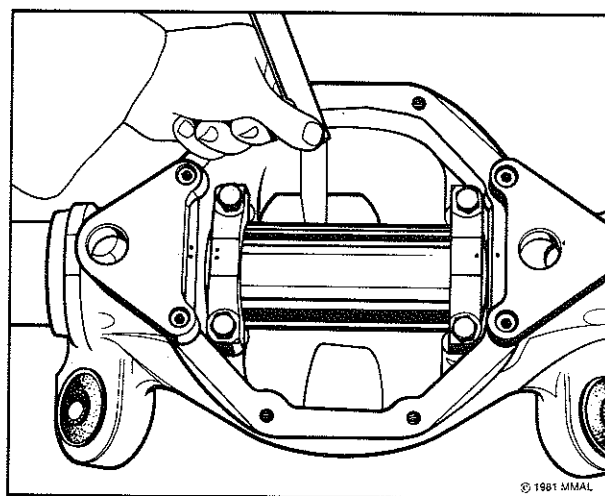

Fig. 29—Pinion shim selection
(3) Install the 4,32 mm (0.170") spacer (part of tool E3M10T) onto the dummy pinion.
(4) Install the pinion rear bearing cup and cone onto the dummy pinion and install the dummy pinion assembly into the carrier housing.
(5) Install the pinion front bearing cone onto the dummy pinion.
(6) Install the spacer, washer and nut (part of tool E3M10T) and tighten nut to obtain the specified pinion bearing preload.
(7) Install the arbor in the carrier and lightly clamp with side bearing caps and bolts.
(8) Measure the gap between the arbor and the dummy pinion head with a feeler gauge, refer Fig. 29.